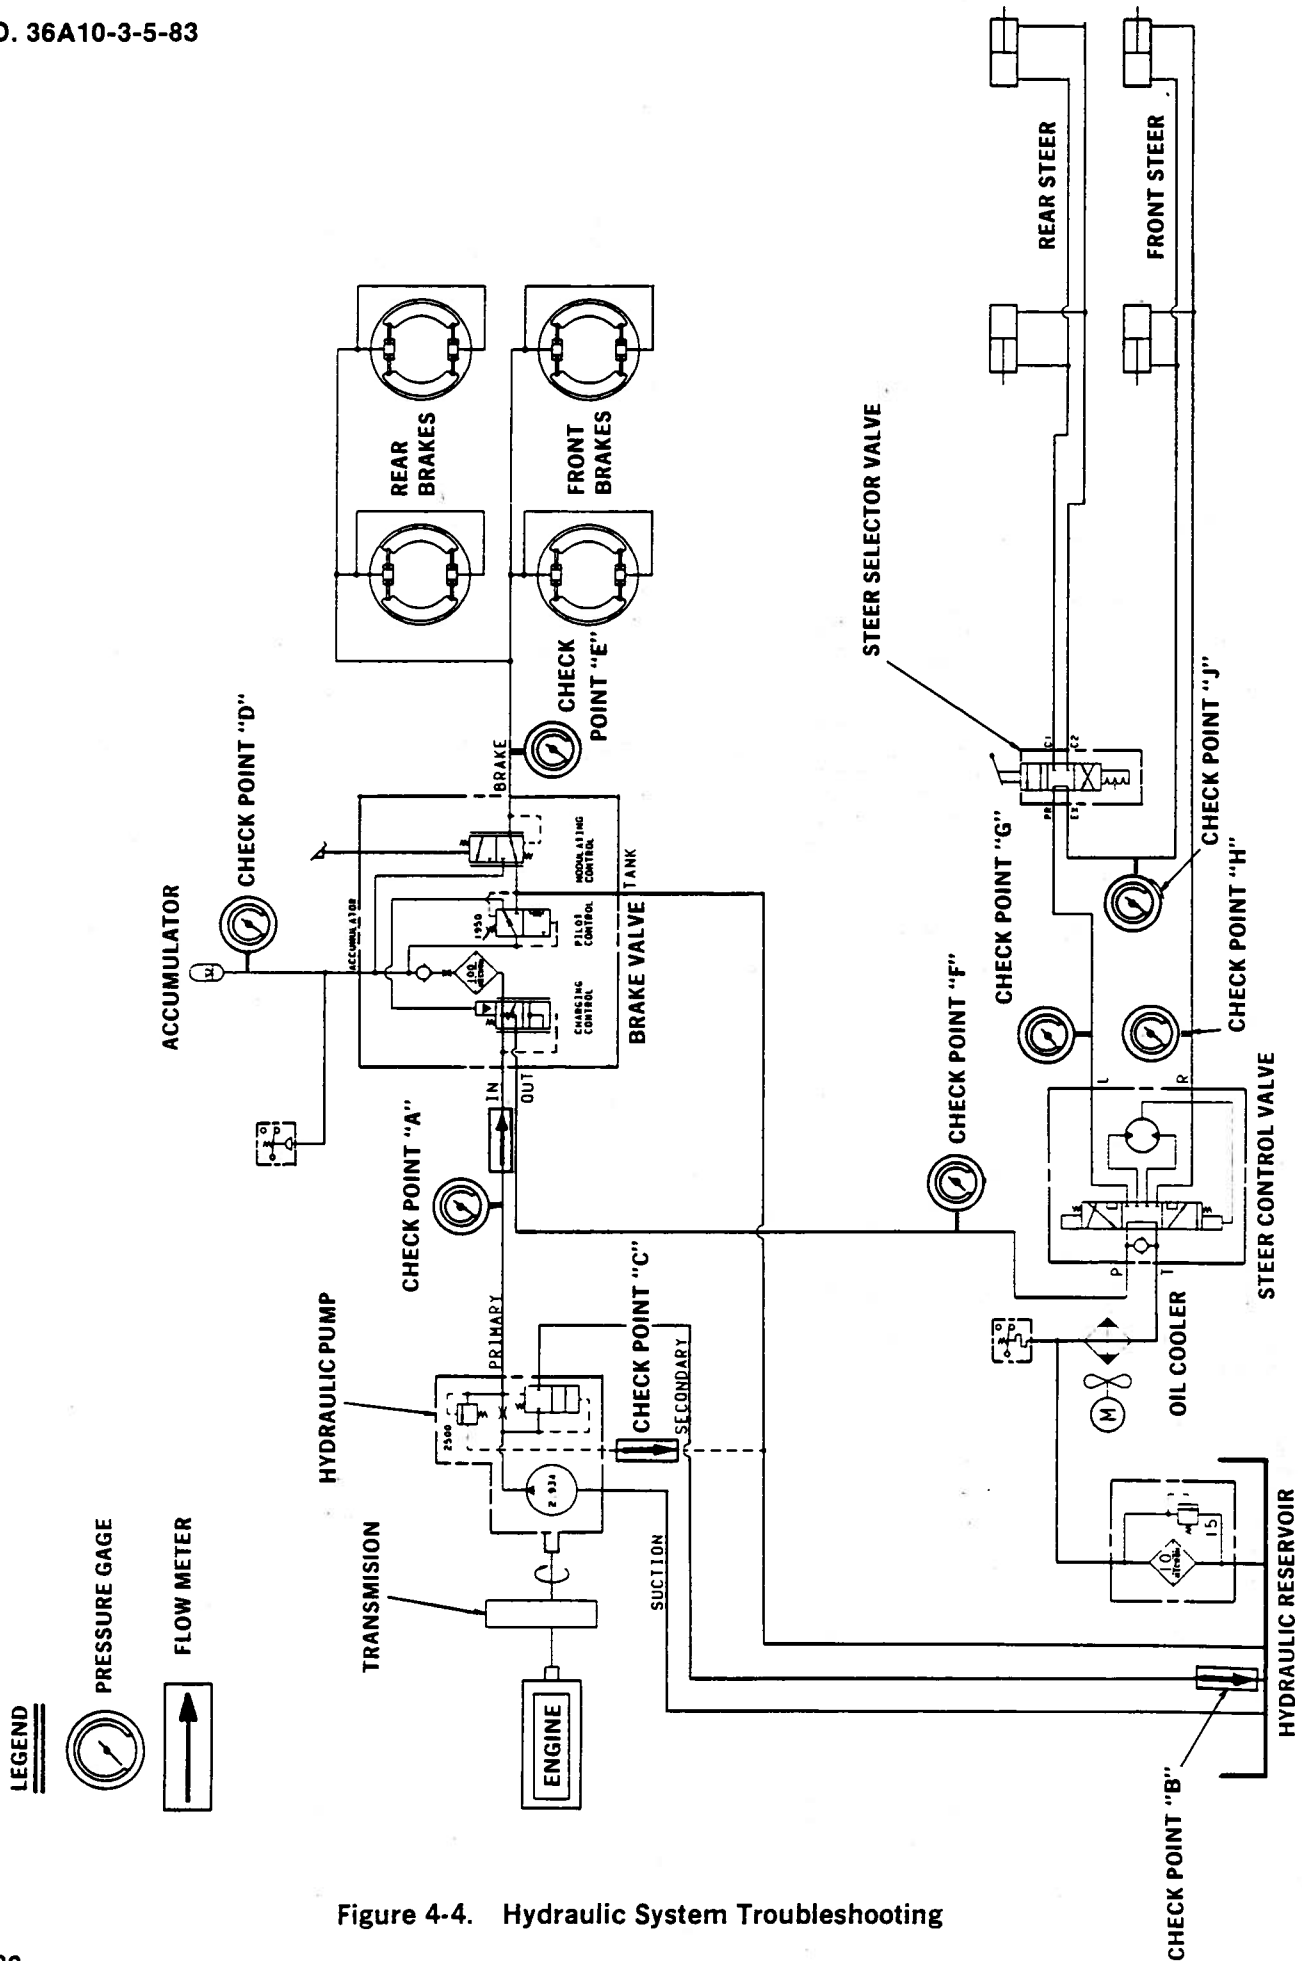

Figure 4-4. Hydraulic System Troubleshooting
b. Install pressure gage (0-3000 psi) in primary outlet line at hydraulic pump. See figure 4-4 (check point A).
a. Disconnect hydraulic line at check point A (figure 4-4) and install pressure gage (0-3000 psi) and flow meter (2-30 gpm).
c. Disconnect hydraulic line at check point D (figure 4-4) and install pressure gage (0-3000 psi).